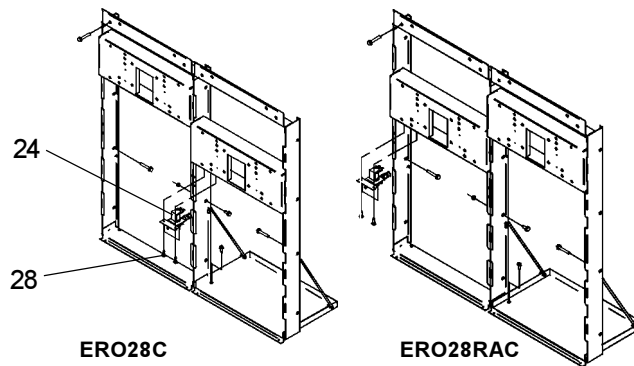

FIG. 9
3. Attach solenoid valve assy to the underside of cross member of mounting frame on electric eye unit. See Figure 9.